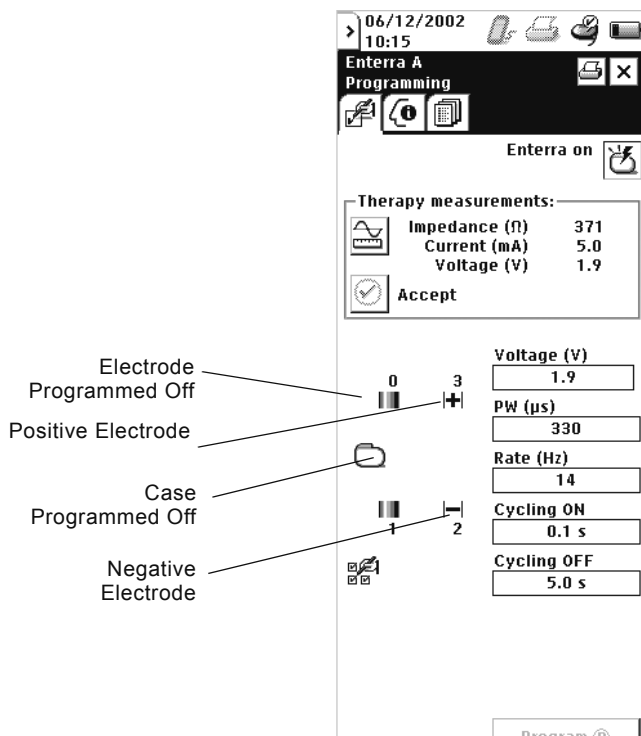

Figure 19. Program polarities.
Programmable electrode polarity settings consist of a cathode (a negative “pole” designated on the programmer display with a “-” sign on the graphic electrodes) and an anode (a positive “pole” designated on the programmer display with a “+” sign on the graphic electrodes and neurostimulator case) (Figure 19). Any of the electrodes and the neurostimulator case can also be programmed off (designated on the screen by the absence of a “+” or “-” sign).
1. Using the stylus, select the **Programming** screen (Figure 19).